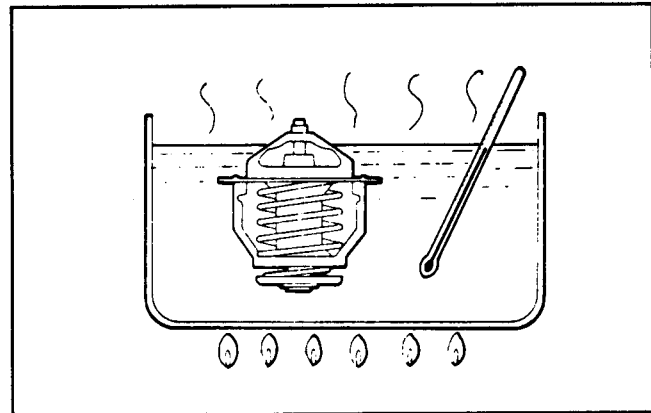

Figure 23
2. Put the thermostat in a container of water with a thermometer and heat the water (Fig. 23).